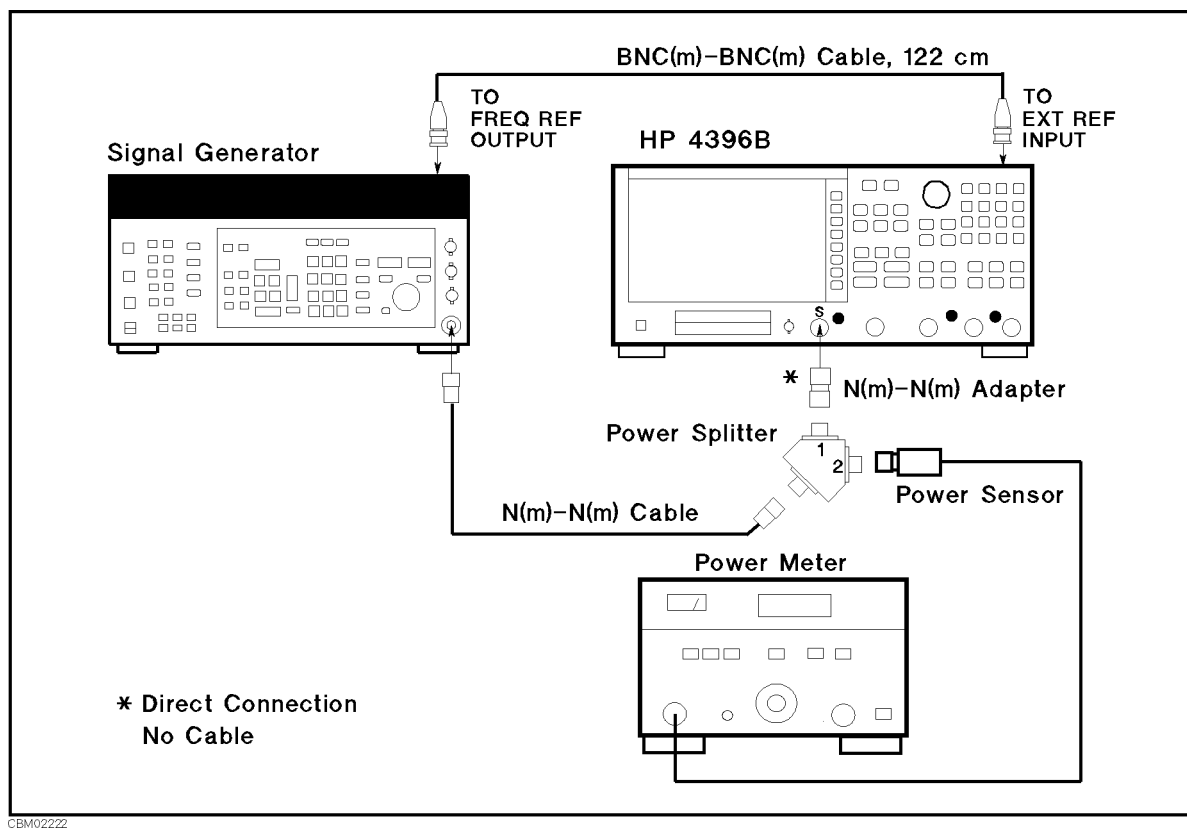

Figure 2-26. Frequency Response Test Setup 1
2. Connect the test equipment as shown in Figure 2-26.
Connect the signal generator's 10 MHz frequency reference output to the 4396B EXT REF Input on the rear panel as shown in Figure 2-26. With this configuration, both the signal generator and the 4396B are phase locked to the same reference frequency to obtain a stable measurement.